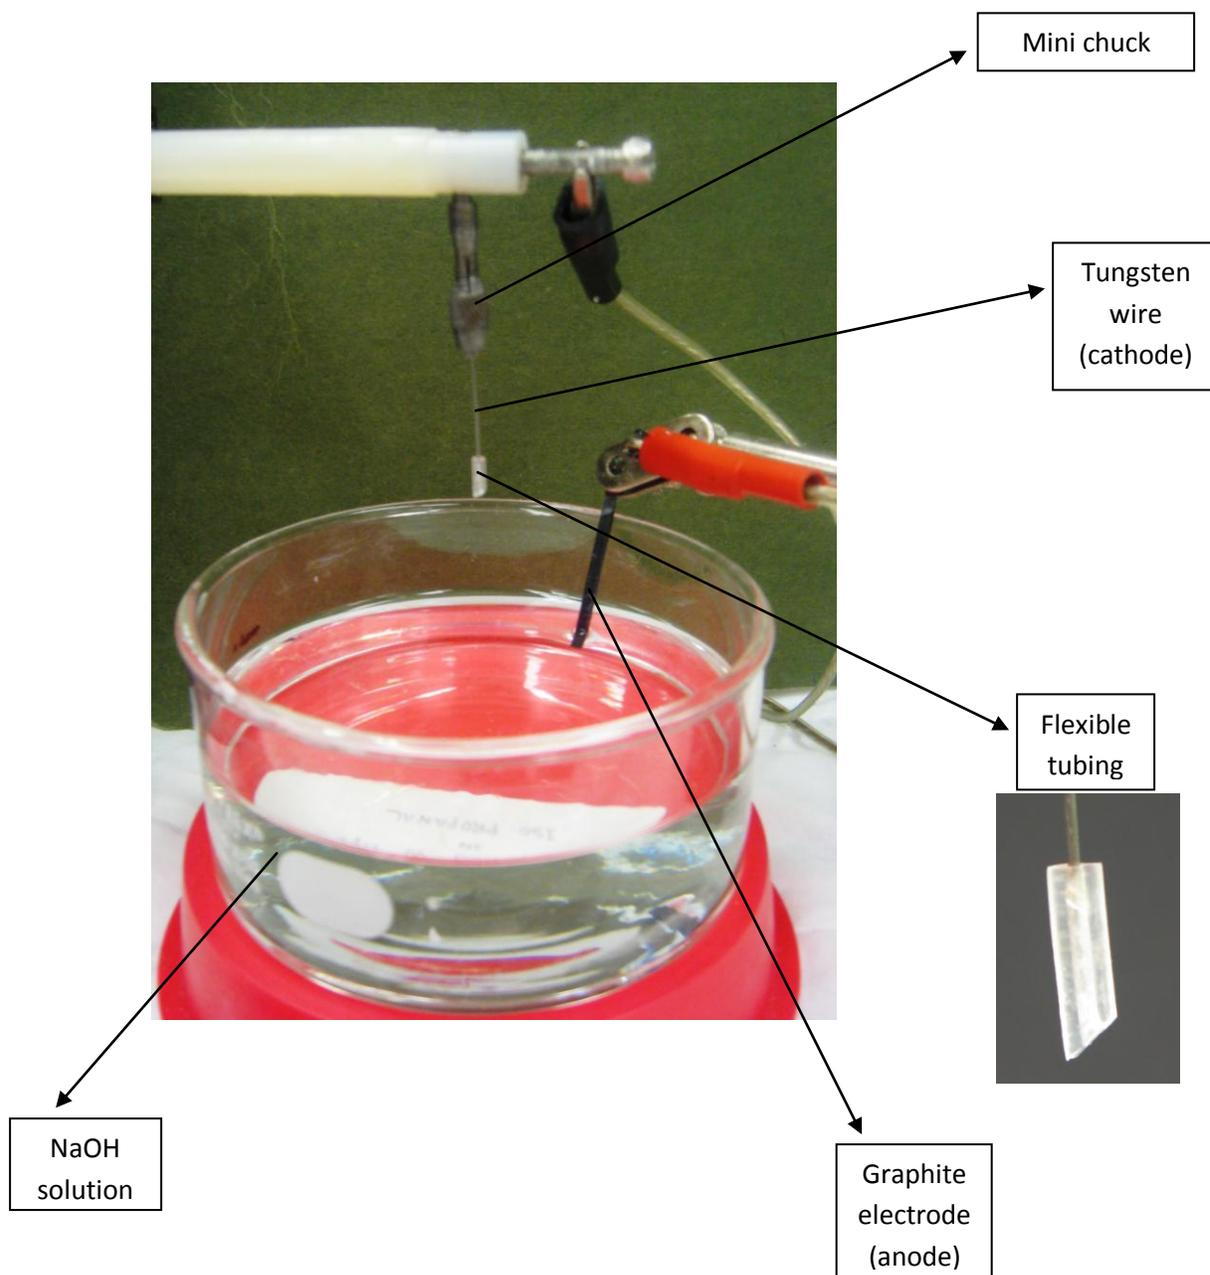

Fig. 3: Picture of the etching station used in preparing the tips
- *etching station* (see Fig. 3);
3. ***Cut a fresh piece of the flexible tubing*** - the length of the tubing should be chosen such that it completely covers the part of the tungsten wire which will become the actual tip; also try not to make it flat on both sides (see the zoom in on the tubing in Fig. 3), so that you can recognize the part with the 'tip of the tip' when the etching process is over;
5. ***Prepare the NaOH solution*** - weigh 16g of NaOH grains using the electronic scale; fill a clean beaker with 200 ml distilled water and pour the grains in; put the beaker into the ultrasonicator for ~ 10 minutes to allow the grains to dissolve (use a glass stirring rod if they did not dissolved completely after the 10 minutes have passed); finally, transfer the freshly prepared solution into a beaker similar to the one in Fig. 3;
8. ***Mount the wire on the mini chuck*** as in Fig. 3